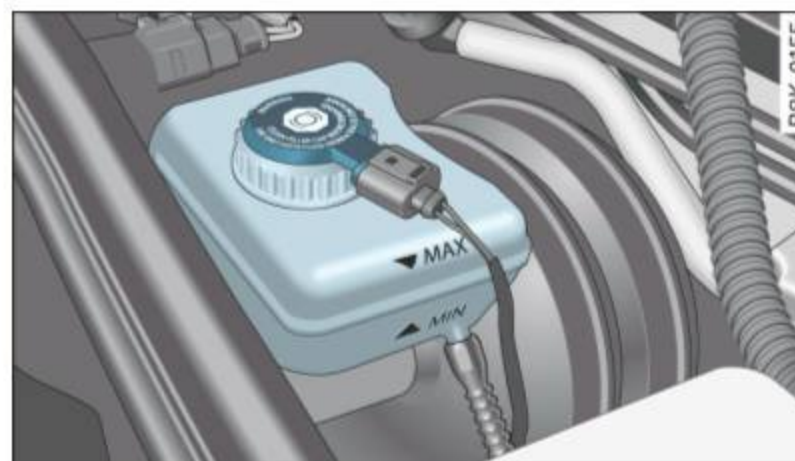

Fig. 216 Engine compartment: Brake fluid reservoir
- Read the brake fluid level from the brake fluid reservoir \Rightarrow fig. 216. The brake fluid level must be between the “MIN” and “MAX” markings.